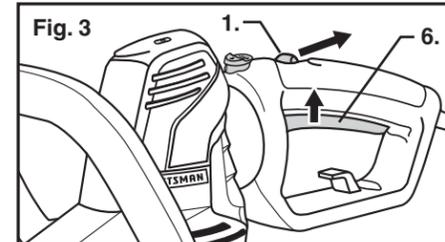

Fig. 3
STARTING AND STOPPING (See Figs. 3 and 4)
Slide the lock-off button (1) back towards you then squeeze the trigger switch (6) to turn on the hedge trimmer. The trimmer will stay on as long as the trigger switch is squeezed. Lock-off button can be released once hedge trimmer is running. (See Fig. 3)